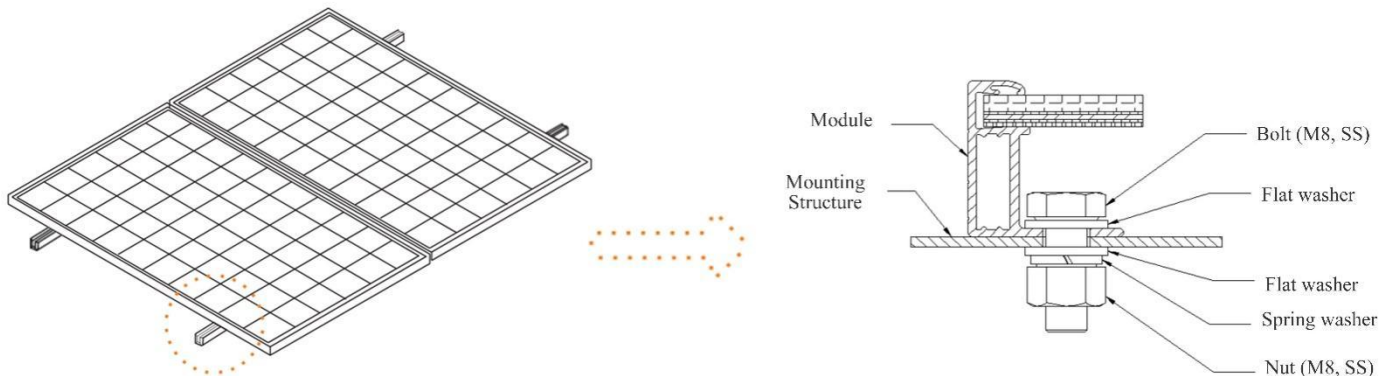

Figure 16 Installation of aluminum frame Module bolt hole
- ◇ When selecting the mounting clamp method, ensure that there are at least four clamps on each Module, and the clamp need to be arranged symmetrically (Figure 16). The different mounting positions of the clamps affect the maximum load capacity of the Modules (Table 1).